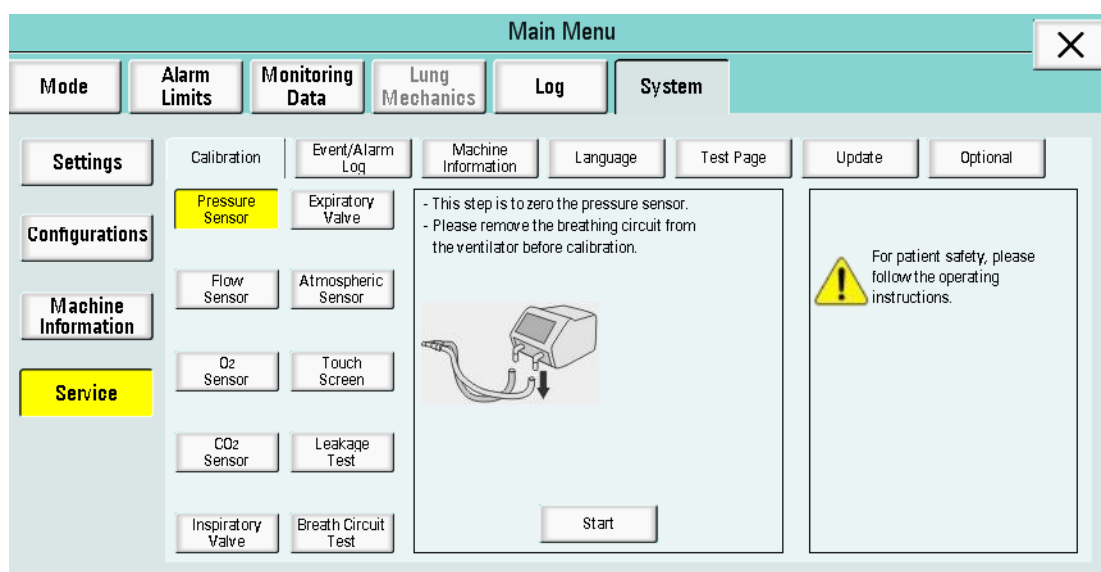

Figure 6-59
The calibration choices include: Pressure Sensor Calibration, Flow Sensor Calibration, O₂ Sensor Calibration, CO₂ Sensor Calibration, Inspiratory valve Calibration, Expiratory Valve Calibration, Atmospheric Sensor Calibration, Touch Screen Calibration, Leak Test and Breath Circuit test, as shown in Figure 6-59.
(1) Pressure Sensor Calibration: Click “Pressure Sensor” to enter the calibration interface. A message is displayed: “This step is to zero the pressure sensor. Please remove the breathing circuit from the ventilator before calibration.” A legend is displayed as well, as shown in Figure 6-59.